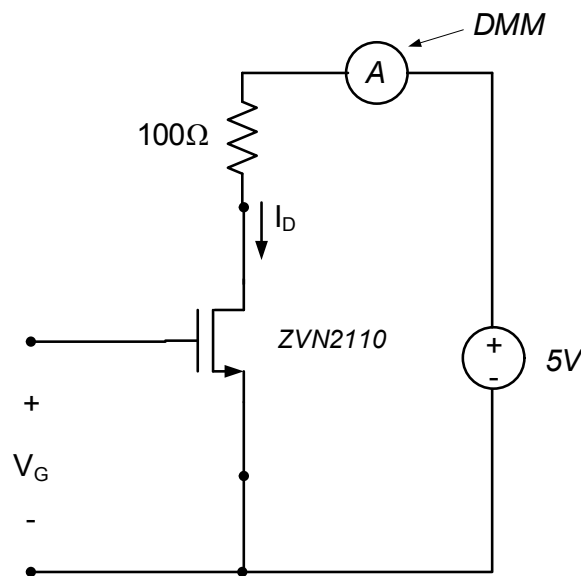

Figure 2. VCCS circuit schematic.
1. Connect the circuit shown in Figure 2. Two power supplies are used in the circuit. Use channel 1 of your Arbitrary Waveform Generator (W1) to apply the (variable) gate voltage, V_G . Use of the waveform generator to apply constant voltages is presented in Appendix A of this assignment. Use the positive power supply (VP+) to provide a constant 5V to the MOSFET drain; this power supply provides the drain current I_D .
The 100Ω resistor in Figure 2 is used to limit the amount of current flowing through the MOSFET. If no resistor is used between the power supply and the MOSFET, an excessive amount of current can flow through the MOSFET resulting in damage to the MOSFET and/or the rest of the circuit. The 100Ω resistors in your analog parts kit can be identified by the color bands on the side of the resistor – they will be as shown in Figure 3. We will discuss resistors in detail in later modules. Use an ohmmeter to measure the resistance of the resistor and record this value in your lab notebook (the actual resistance will most likely be slightly different from 100Ω).
Connect your DMM as shown in Figure 2 to measure the current I_D .